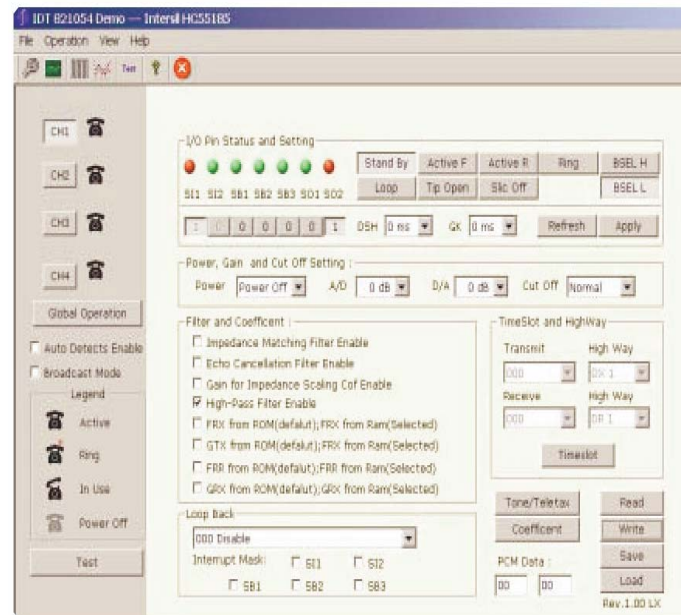

FIGURE 2. MPI OPERATION GENERAL INTERFACE
Programming of the logic state of the SLIC, loop supervisory detection, time slot allocation, coefficients, tone/ teletax signals are all controlled via software using the MPI screen (Figure 2).
5. The MPI Mode screen will then appear (Figure 2). All programming of the channels and monitoring of SLIC status are performed using this screen.